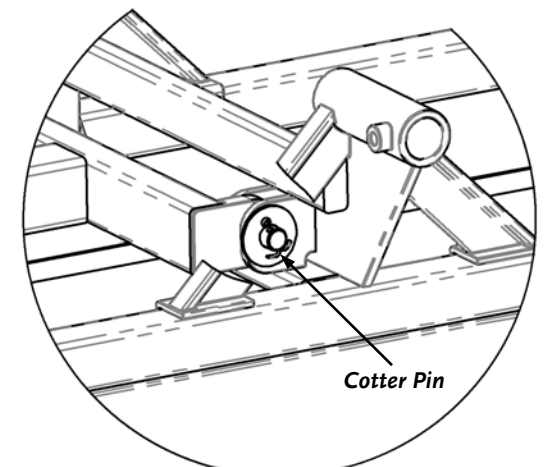

Figure 7
5. Insert a Cotter Pin through the Hole in the Pivot Pin and bend the Legs over using Needle Nose Pliers (**Figure 7**). Repeat for the other side.